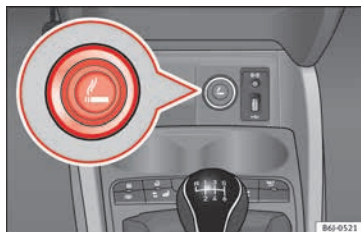

Fig. 153 Lighter.
- Press on the cigarette lighter » **Fig. 153** to activate it » **⚠.**